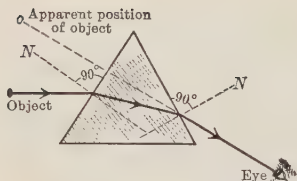

FIGURE 283.—A triangular glass prism usually bends the ray twice, both bends bringing the ray nearer the base.
**186. Refraction through a Triangular Prism.**—If a triangular glass prism is used as in Figure 283, the light on